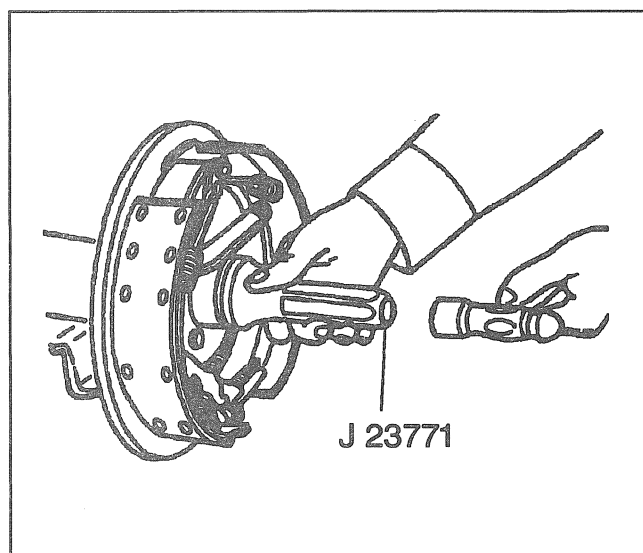
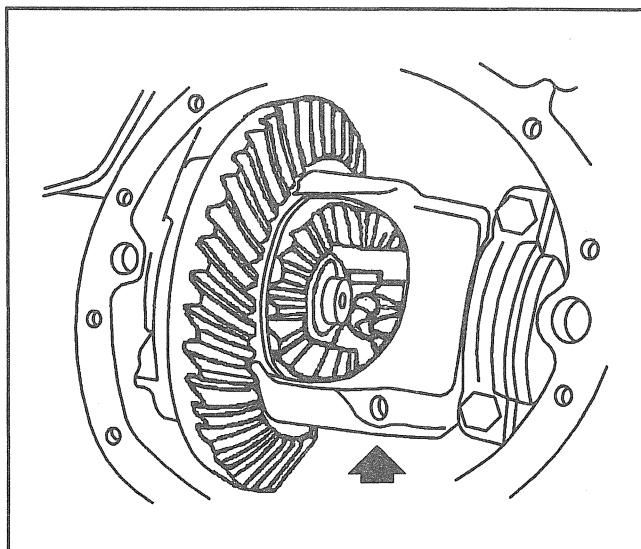

Figure 29—Installing the Axle Seal
Figure 30—"C" Lock and Axle Shaft Seated In The Side Gear
2. Oil seal using J 23771 until the oil seal is flush with the axle tube (Figure 29).
3. Axle shafts (33) into the axle housing (1).
4. "C" locks (34) on the axle shaft (33).
- Pull the axle shaft (33) outward so the "C" lock (34) seats in the counterbore of the axle side gear (Figure 30).
5. Pinion shaft (17) through the case (24) and differential gears (22).
6. Pinion shaft lock bolt (15).